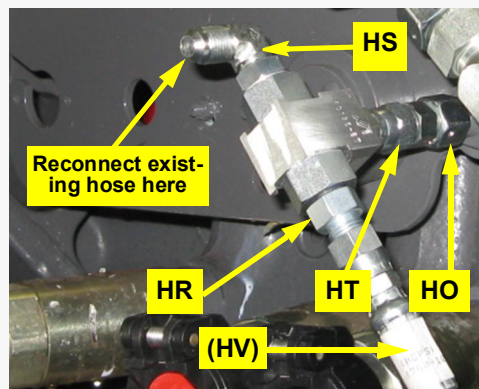

Figure 3d: Load sense shuttle valve connected to auxiliary LS port
- e. Disconnect the hoses at the **P**, **T** and **LS** ports. Connect run-tees **HJ** and adapters **HL** to the **P** and **T** ports (not shown). Connect adapter **HO** to the **LS** port (Figure 3d - note adapter **HP** not used).
- f. Connect the existing pressure and tank hoses to the open 'T' ends of the run-tees (not shown). Connect the load sense valve's adapter **HT** to adapter **HO**. Connect the existing load sense hose to elbow adapter **HS** in the load sense valve (Figure 3d - note, you will connect load sense hose **HV** in the next section).
- b. Install the load sense hose **HV** between fitting **HP** installed in step 3c (or adapter **HR** in the load sense valve - Figure 3d) and adapter **HC** in the load sense port on the hydraulic steering block (Figure 4).